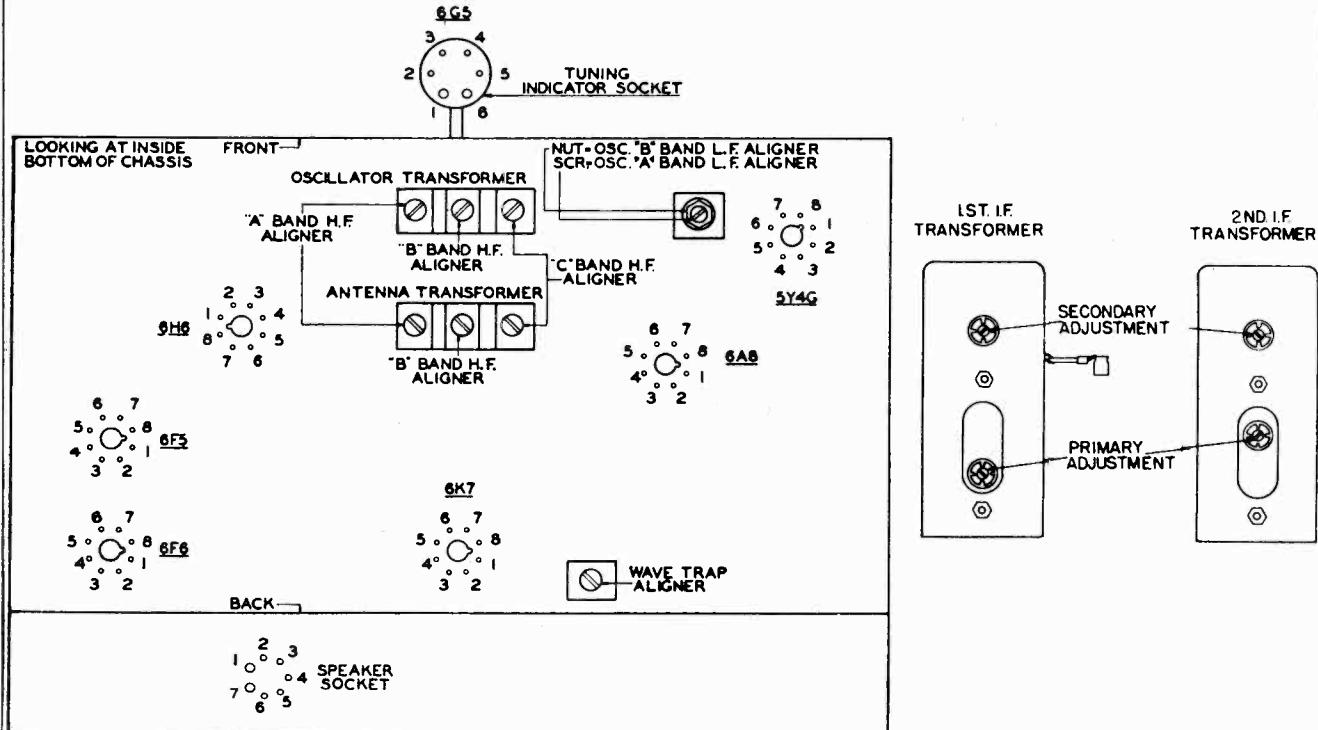

Fig. 1.—Terminal Layout for Voltage Measurement Chart and Location of the Various Aligning Capacitors.
In order to obtain maximum performance from these receivers, a sensitivity control is provided for use on the standard broadcast range only. Its control knob is located on the rear of the chassis base. When either the "B" or "C" ranges are in operation, this sensitivity control is automatically cut out of the circuit so that the receiver will function at its maximum sensitivity on these two ranges. In some localities it will be found that without the use of this control, it will be impossible to eliminate adjacent channel interference. When this condition is obtained, the receiver should be tuned accurately to the desired station, and this sensitivity control adjusted so that minimum interference is obtained from the interfering station. See Figure 1.
- Now, using from Figure 1, the alignment adjustments for the first and second I. F. transformers, align the I. F. circuits in the following manner: